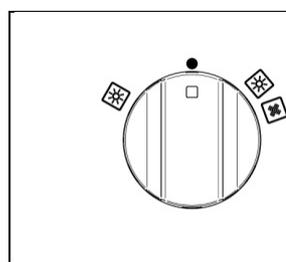

Fig 24A
– the symbol  indicates that the electric fan, and the oven light have been turned on (Fig.24A-24B).